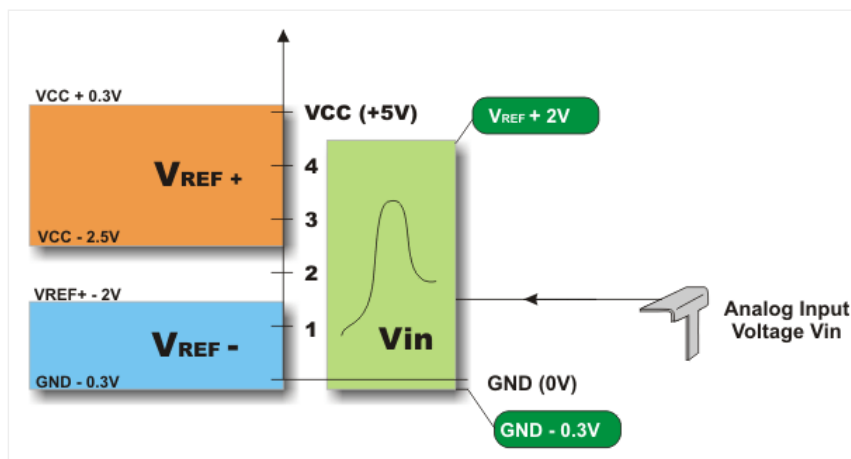

Fig. 7-3 How to Use The A/D Converter
- When the port with analog inputs marked as CH0-CH13 is read, the corresponding bits will be driven to logic zero (0); and
- Roughly speaking, voltage measurement in the converter is based on comparing input voltage with internal scale which has 1024 marks ($2^{10}=1024$). The lowest scale mark stands for the V_{ref-} voltage, whilst the highest mark stands for the V_{ref+} voltage. Figure 7-3 below shows selectable referent voltages and their minimum and maximum values as well.